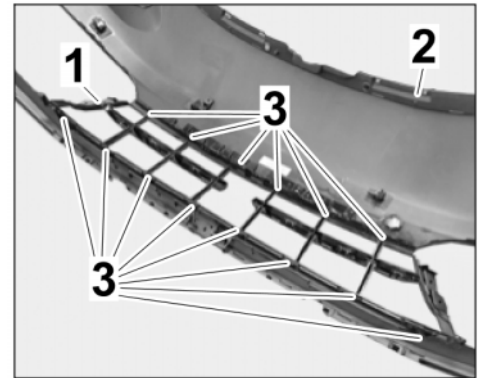

Figure 17
3.2.2 Install center grille (radiator grille) into the front apron (⇒ *Figure 17*).